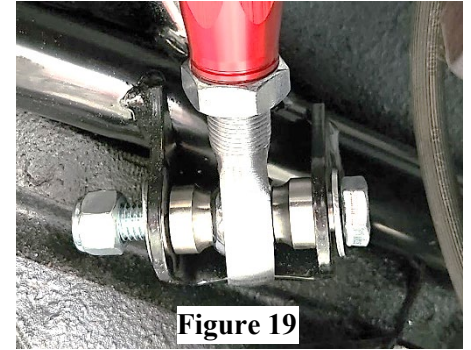

Figure 19
14. With one SG88 spacer on each side of the red anodized upper trailing arms, install the upper trailing arm into the inner mounting tabs at the front of the crossmember. (**Figure 19**) Secure using 1/2"x 3.25" hardware with two washers and one Nyloc nut per connection. Torque to 50 lb. ft.